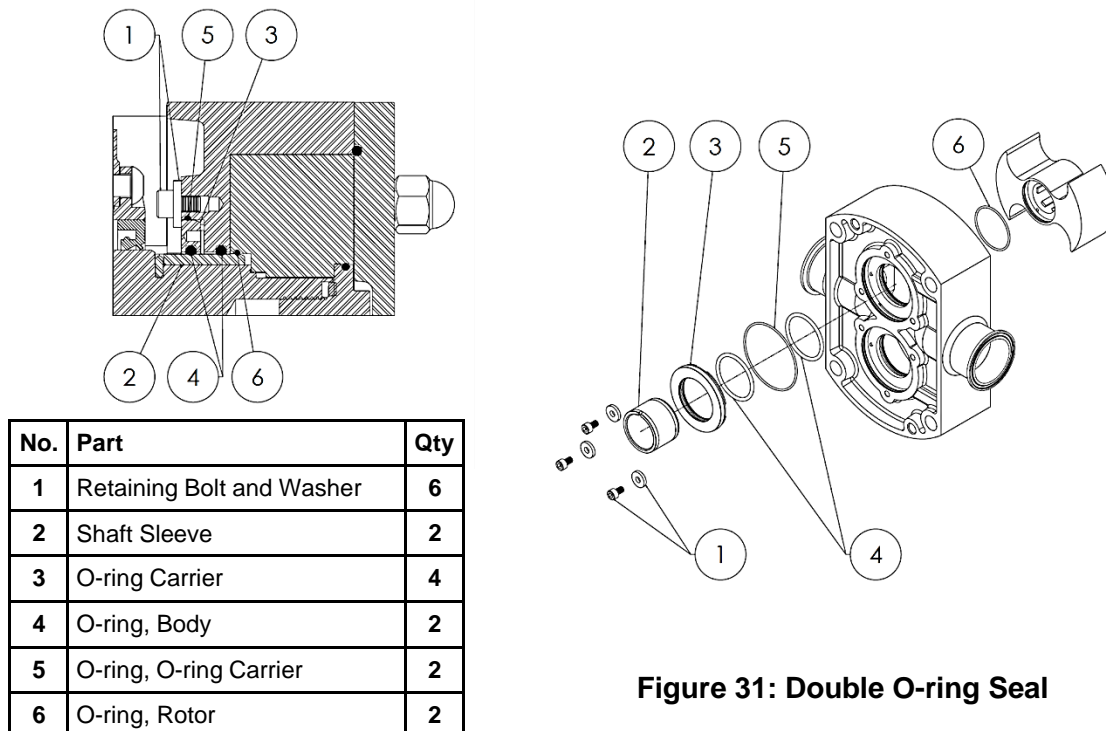

Figure 31: Double O-ring Seal
Disassembly: The double o-ring seal option is shown in Figure 31. Remove the retaining bolts and washers using the appropriate driver and slide the o-ring carrier out of the body. Remove the o-rings from the body, o-ring carrier, and rotor (Figure 31, items 4, 5, 6). If damaged, replace o-rings. Slide the shaft sleeves off the shafts and inspect for damage. Do not re-use sleeves that are damaged (sleeve surface grooved or scratched).
Disassembly: The single mechanical seal option is shown in Figure 33. The QL single mechanical seal is designed to be front pull out without the need to remove the pump body. Using the o-ring tool provided by Q-Pumps remove the mechanical seal from the rotor and body. Inspect the seals for chipping, scratches, or any evidence of cracks on the seal face (the mechanical seals are interchangeable). Remove the o-rings from the body and rotor (Figure 31, items 3, 5). If damaged, replace o-rings. If any of the seals are damaged do not re-use them. To remove the mechanical seal base, loosen the retaining bolts and washers using the appropriate driver and slide the single mechanical seal bases out of the body.